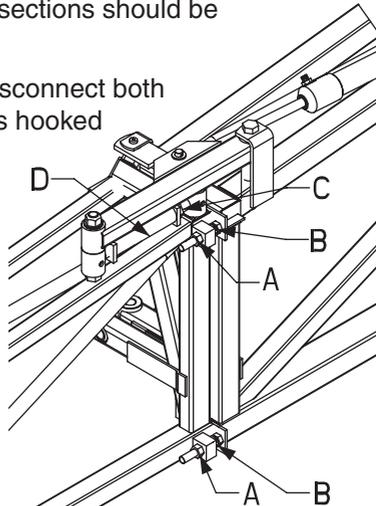

Fig. 16
2. Loosen jam nuts (**A** and **C**)(Fig. 16).
3. Loosen the screws (**B**)(Fig. 16).
4. With one person holding the outer wing, adjust the stop screws (**B**)(Fig. 16) until the inner section is aligned with the outer section and both stop screws are contacting the outer section.
5. Tighten jam nuts (**A**)(Fig. 16).
6. Have one person adjust the rigging screw (**D**)(Fig. 16) until the outer wing section "snaps" into alignment and stays when the second person folds the outer section in a few feet and then back out against stop screws.
7. Tighten jam nut (**D**)(Fig. 16) and check the alignment. If needed, repeat the adjustment above.